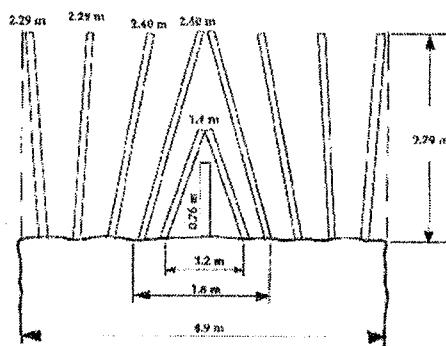

Figure 3
1.32 Figure 3 is the tunnel configuration for a